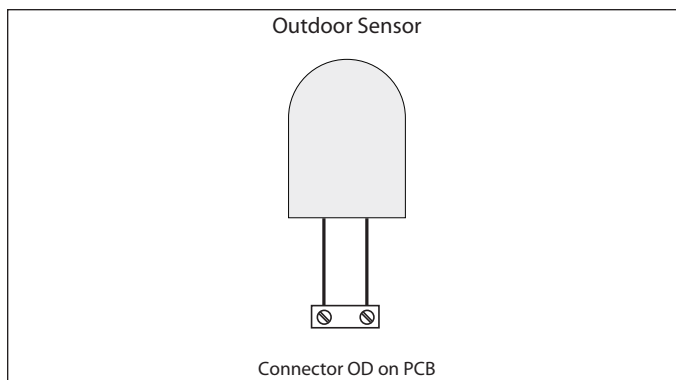

Figure 66 - Outdoor Sensor Connection
3. Connect the room thermostat wires to the terminals indicated in Table 18 and Figure 66.